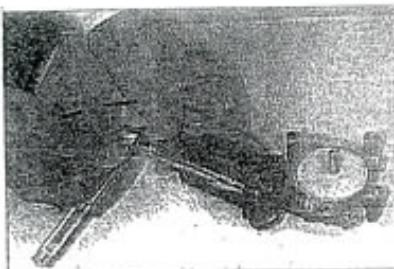

FIG. 3
4. Loosen, but Do Not Remove the two motor housing screws. Caution: DO NOT completely separate the motor housing from the gear housing — you may not be able to re-assemble it. (Fig. 3)